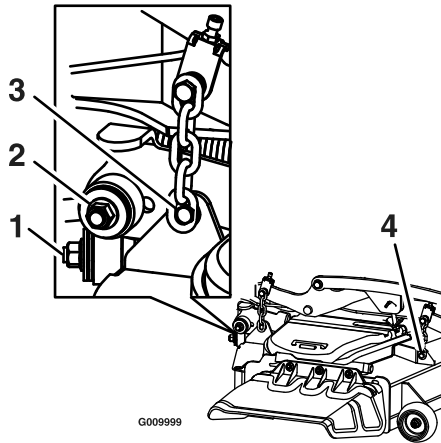

Figure 31
6. Remove and retain the hardware on both sides of the deck as shown in Figure 31.